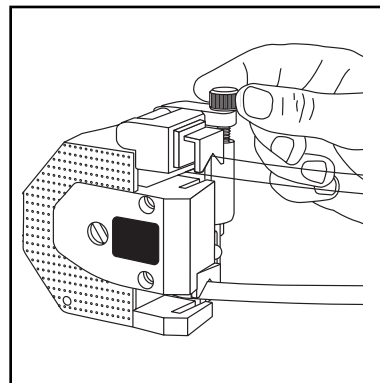

Figure 3-12. Adjusting the Clamp Screw
4. Refer to Figure 3-12. Tighten the Clamp Screw until the Clamp Plate contacts the Tubing, securing it in place.